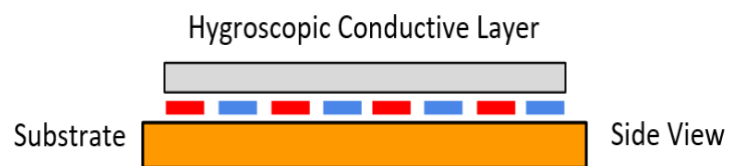

Figure 6.6.1: Hygrometric sensor side view
- A conductive hygrometric sensor is shown in *Figure 6.6.1*. The sensor is made on a ceramic (alumina) base.